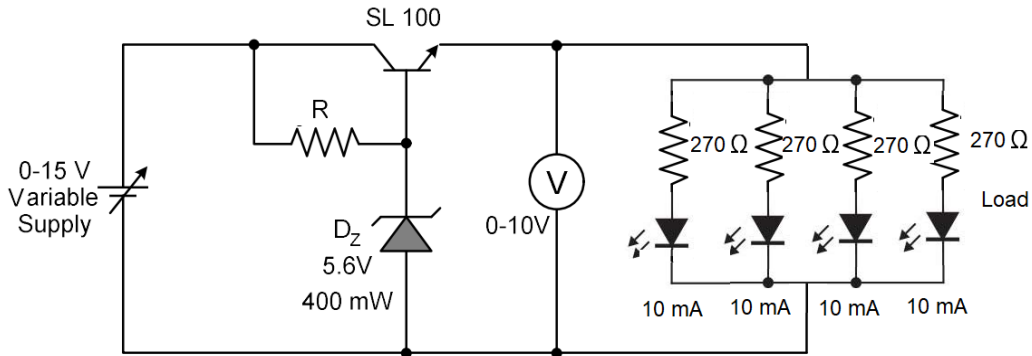

Figure 1: Transistor series regulator
1. Set up the circuit as per the circuit diagram shown in Figure 1.